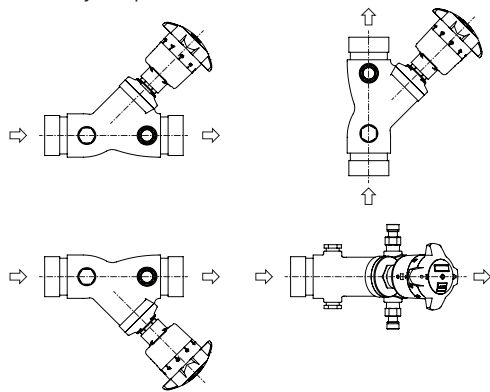

FIG. 5
- 8 The FTV's may be installed in horizontal or vertical piping (as illustrated in FIG. 5). Provisions must be made for easy access to the probe metering ports (PMP's), reading scale, and memory stop.